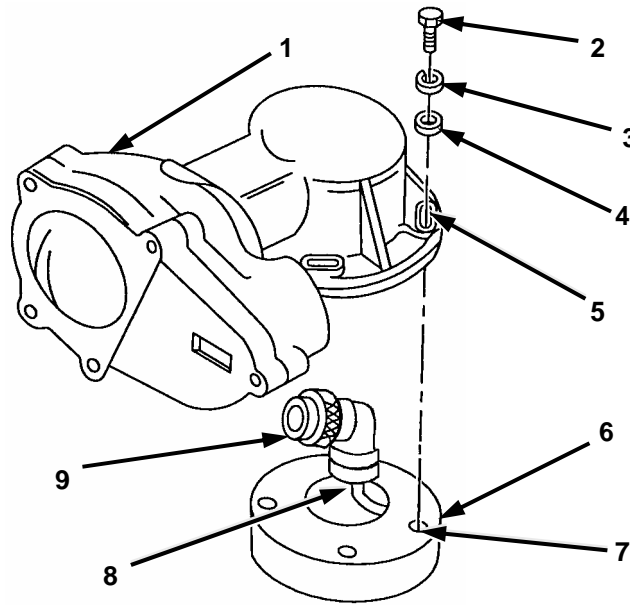

Figure 2-33. Headlight.
- g. Hold headlight 12312192 (Figure 2-33, 1) near connector (9). Install connector on headlight.